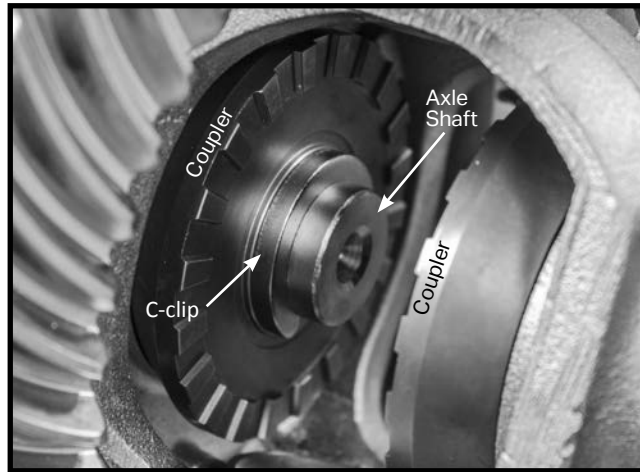

Figure 3: Install couplers (and the left C-clip if so equipped)
1. Install a coupler and thrust washer assembly in the ring gear end of the differential case and over the axle splines, if in the vehicle (**Figure 3.**) Note that the couplers in some models may have flats for clearance. If an axle shaft thrust block is used, place it in the center of the second coupler now if the installation is being done in the vehicle. If not, it may be installed later.
2. Place the second coupler and thrust washer assembly into the other end of the differential case (**Figure 3**).
3. **For C-clip differentials only:** Place a C-clip with the ends pointing down into the ring gear side axle shaft end groove and pull the tire out sharply to seat the clip (**Figure 3**). Then, carefully push the other axle into the second coupler splines until the end of the axle shaft is even with the coupler surface. Keep the coupler seated in the case.